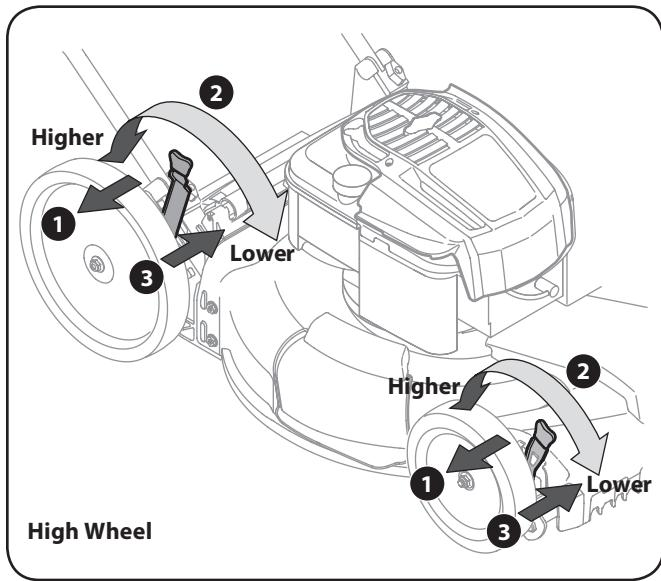

Figure 3-10A
- Move lever to desired position for a change in cutting height. See Fig. 3-10 and Fig. 3-10A.